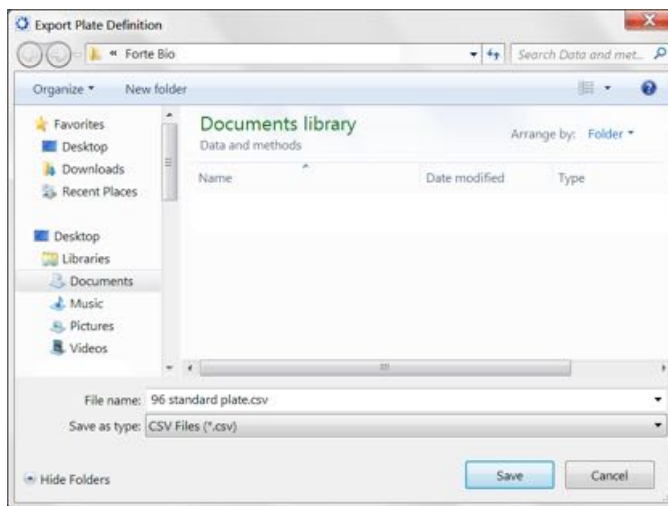

Figure 8-20: Export Plate Definition Window
2. In the **Export Plate Definition** window (see Figure 8-20), select a folder, enter a name for the plate (.csv), and click **Save**.